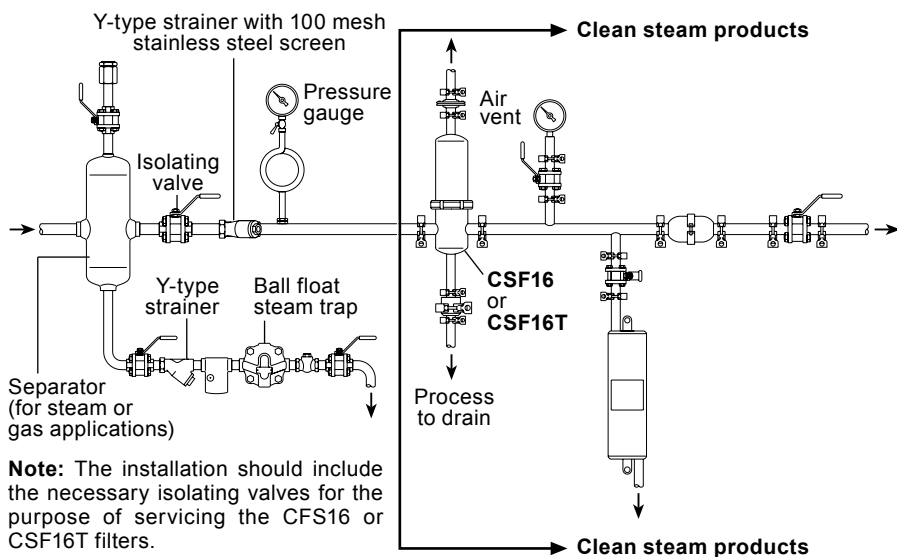

Fig. 5 Typical installation for steam
5. When used on steam the plugs and gaskets on the filter head should be removed and pipework connected to a steam trap installed below the filter. The condensate from this trap should then be piped away to drain, or to the receiver of a pump, providing no backpressure, i.e. lift, is imposed upon the steam trap (see Figure 5). Should it not be possible to install a steam trap at the drain point itself, then a full size equal tee drain point should be incorporated into the horizontal pipework prior to the filter, this to be drained by a steam trap, unless a separator with drain trap is upstream of the filter.